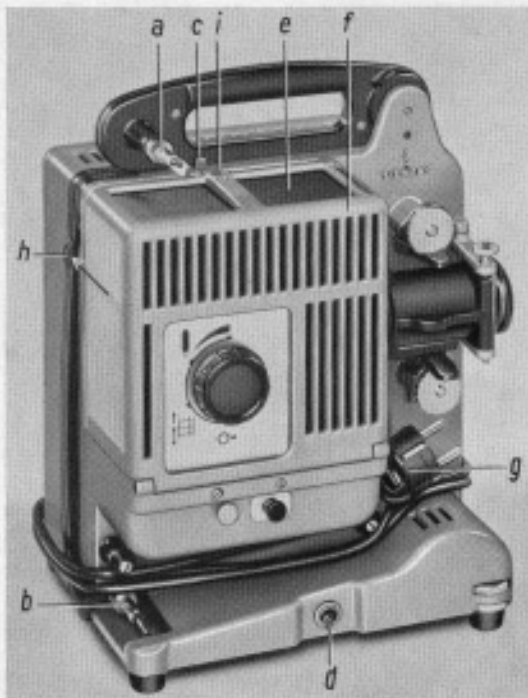

Fig. 3
1. Unroll connecting lead g (Fig. 3)
Press locking rod c (Fig. 3) to release front reel arm, and pull up arm
3. Press lifting frame h in direction of arrow and swing it out to bring rear reel arm into rest position (Fig. 3 and 4)
Loosen screw i (Fig. 3) and locking rod c (Fig. 3), pull down cover of lamp house f (Fig. 3) and carefully lift off black lamp house e (Fig. 3).
Each resistor is marked with the power supply voltage and the wattage of the appropriate projection lamp. After inserting lamp and resistor, place on lamp house e (Fig. 3) from above, shut cover f of lamp house, and tighten fastening screw l (Fig. 3).